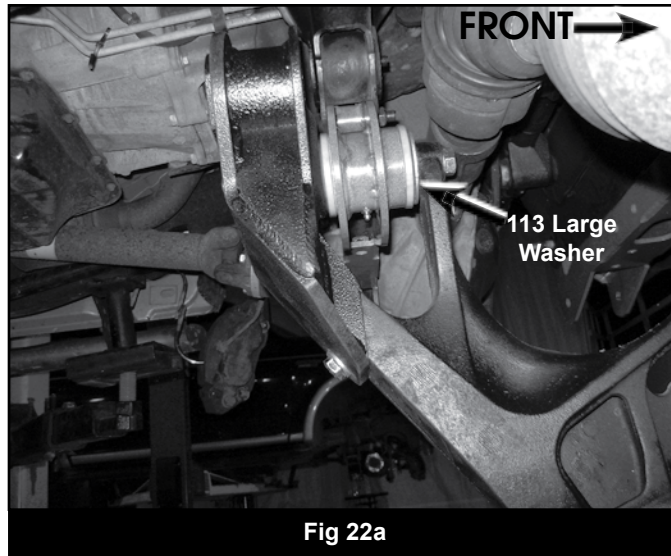

Fig 22a
47. Install the lower control arms in the front and rear crossmembers. Attach the control arms to the front crossmember with  $\frac{5}{8}$ " x 5-1/2" bolts, nuts and  $\frac{5}{8}$ " SAE washers (BP #778) (installed from front to back). Install the spacer washer as shown, attach the arms to the rear crossmember with  $\frac{5}{8}$ " x 8" bolts, nuts, and  $\frac{5}{8}$ " SAE washers (installed from front to back) (Fig 22a, b).